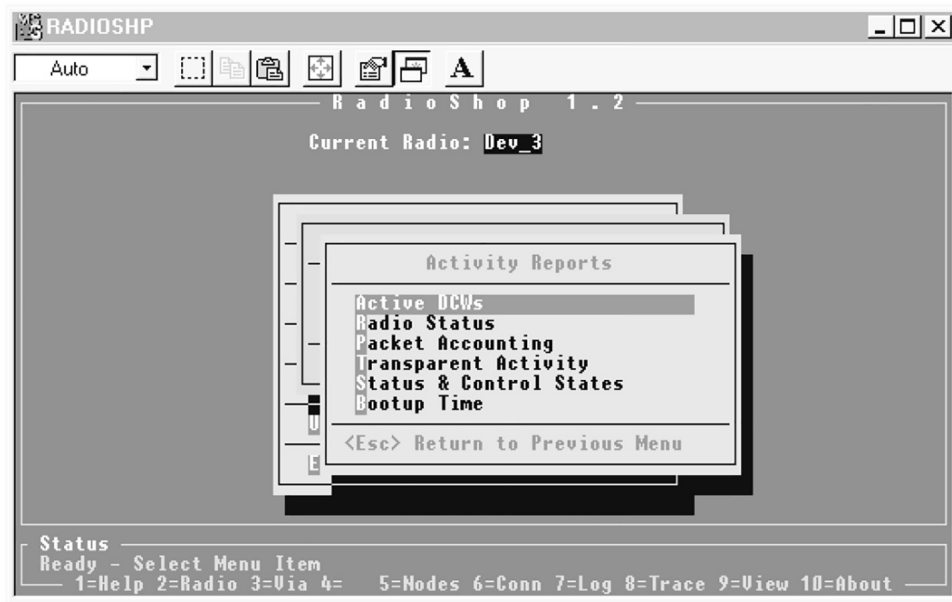

Figure 10. The *Activity Reports* menu.
- (d) Press the <A> key to select the **Activity Reports** option. Then, press the <Enter> key to open the *Activity Reports* screen. See Figure 10.